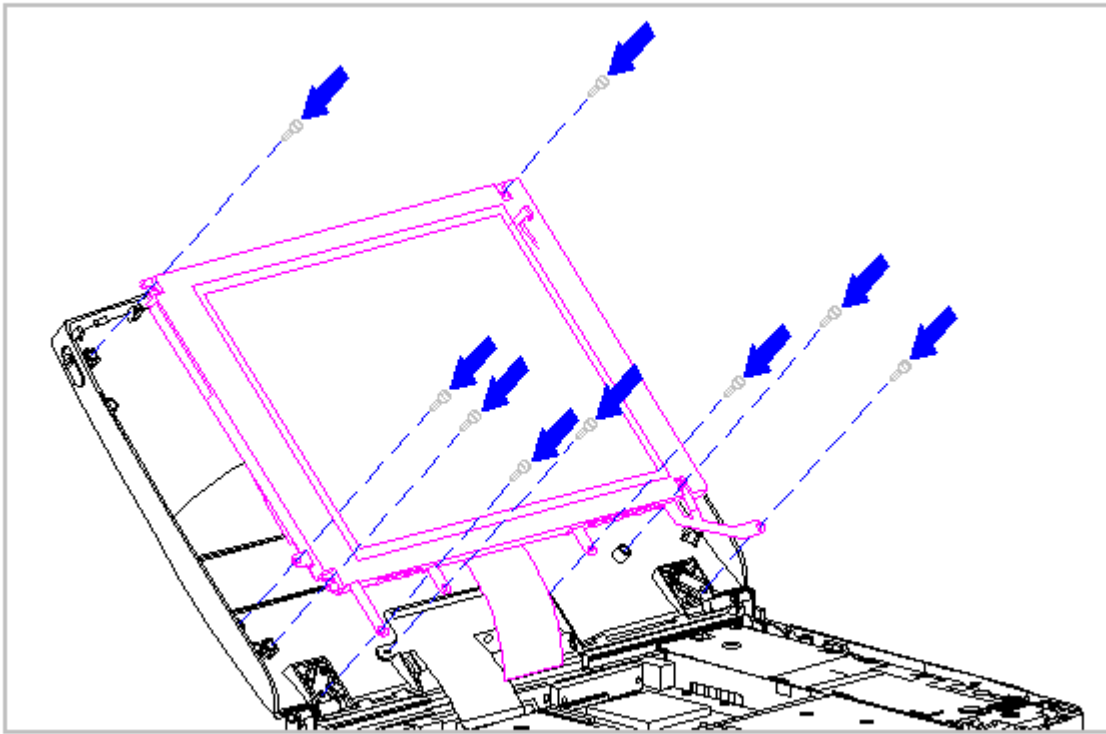

Figure 3-98. Aligning the Monochrome LCD Panel and the Display Shield (Models 400 and 410)
6. Align the Monochrome LCD panel, shield, and cable in the display enclosure and replace the screws. Ensure that the ZIF connector end of the display cable and the end of the display ground cable are exposed at the bottom of the display enclosure (Figure 3-98).